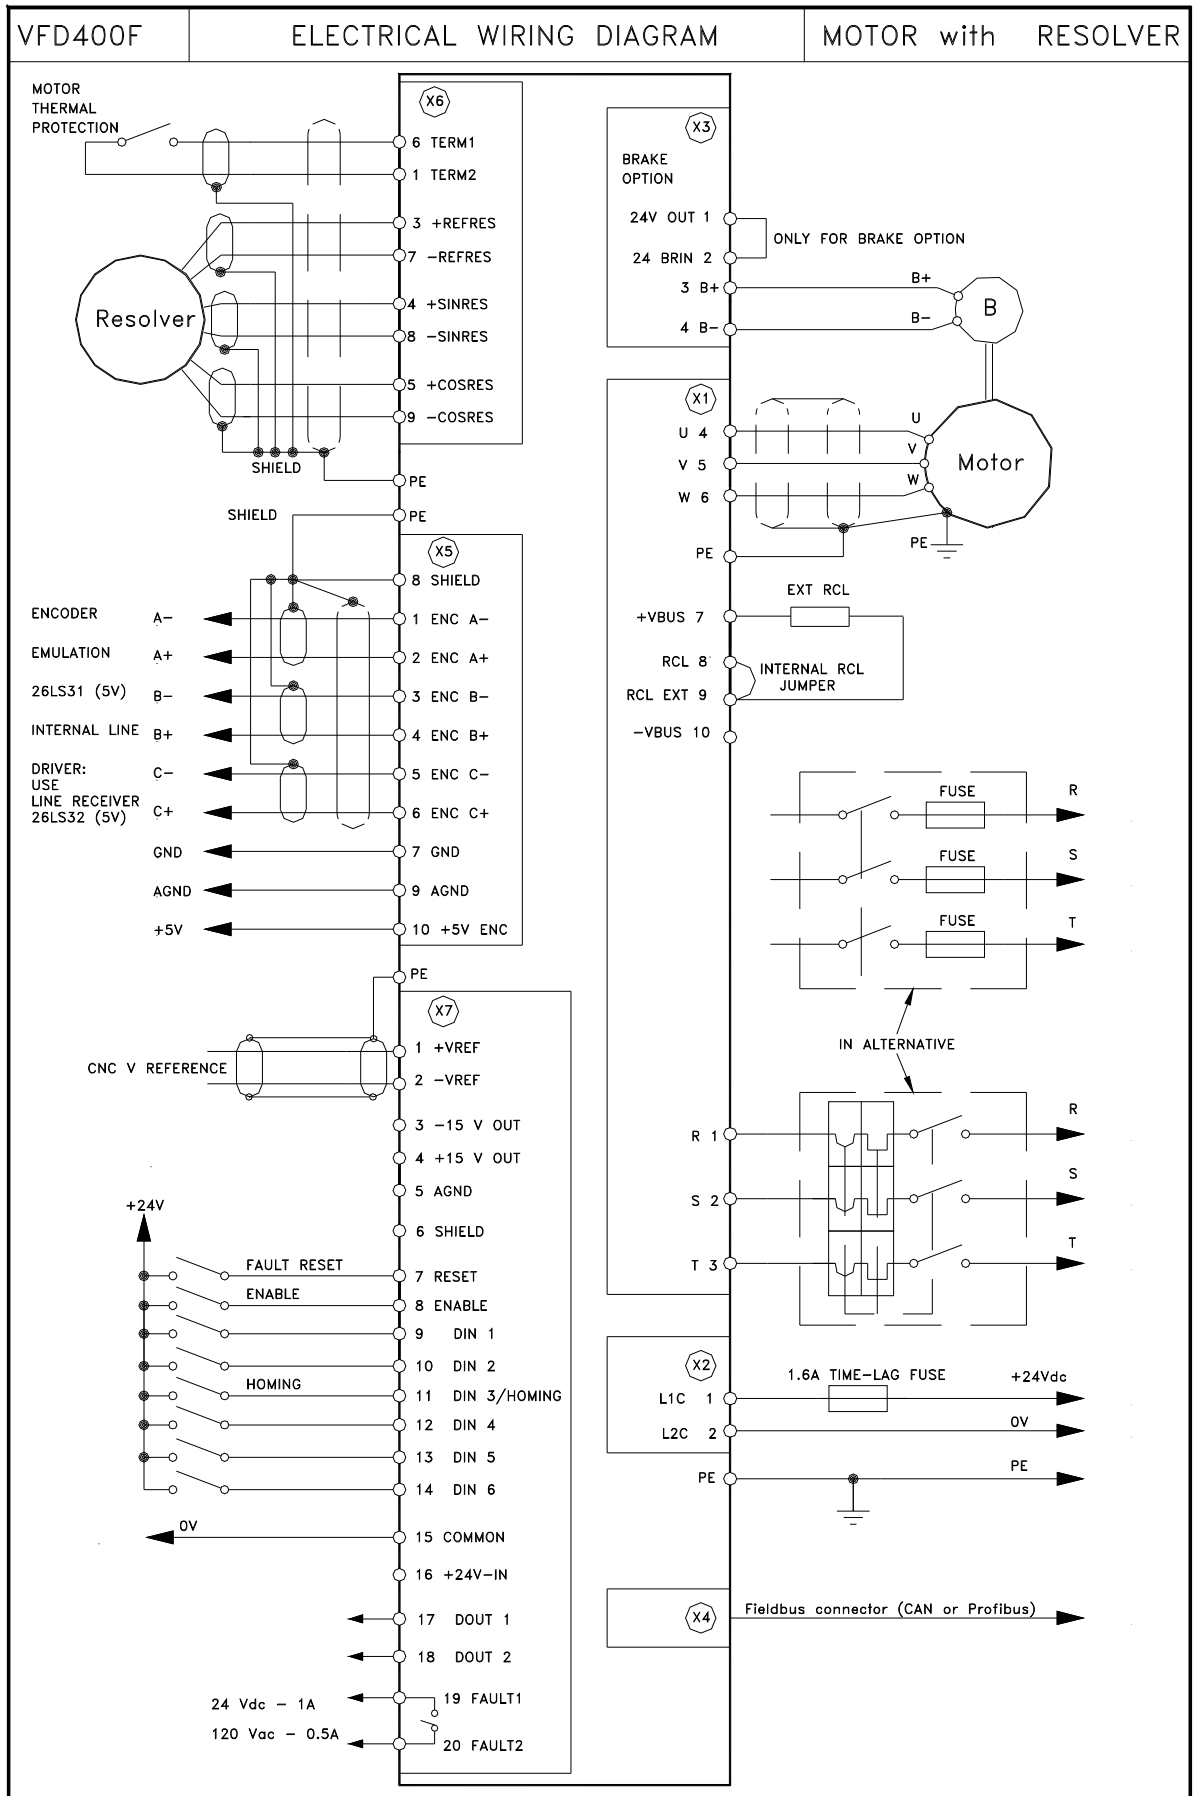

Figure 1
- When using an external resistor, connect the resistor between terminals 7 and 9 (see fig. 1).
- Insert the fuses specified in figure 1 in series with the cables.